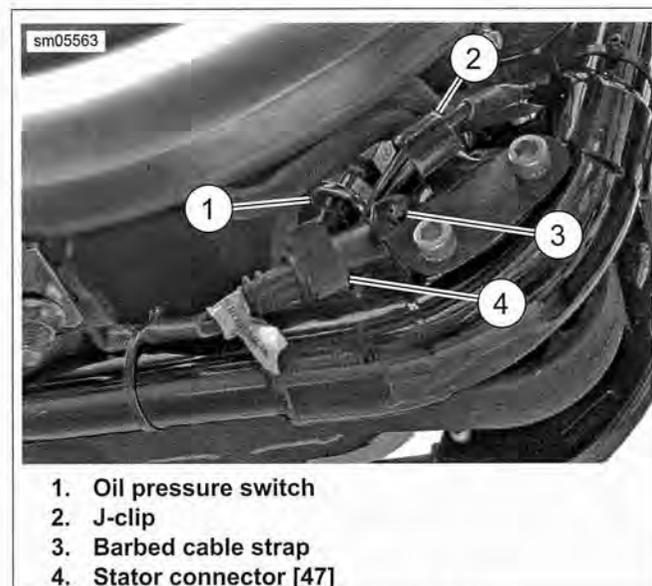

Figure 6-4. Oil Pressure Switch
2. See Figure 6-4. Unplug stator connector (4). Carefully pull barbed cable strap (3) from frame.